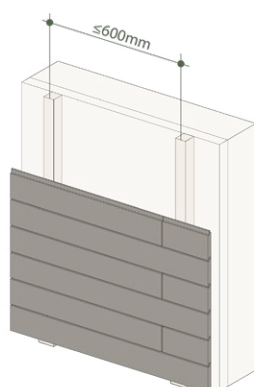

Fig. 1: Single-layer thermo subframe for horizontal cladding installation
**A.** These Brolis profiles are suitable for wooden frames: for vertical battens – ‘Mykolas’ 26x68 or 26x92, battens 42x42; for horizontal battens – half-rhombus or rhombus profiles in 26x68 or 26x92 (see Fig. 1; 2).